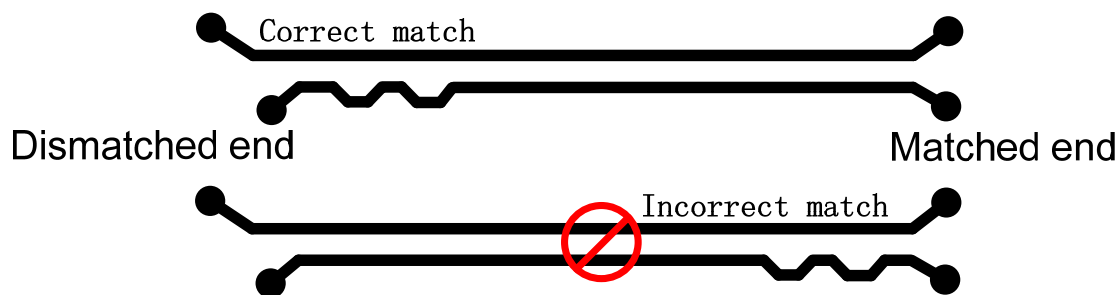

Figure 3-13 Length Match Design of PCIe Difference Pair
- The difference in length of two data lines in difference pair should be within 5mil, and the length match is required for all parts. When the length match is conducted for the differential lines, the designed position of correct match should be close to that of incorrect match, as shown in Figure 3-13. However, there is no specific requirements for the length match of transmit pair and receiving pair, that is, the length match is only required in the internal differential lines rather than between different difference pairs. The length match should be close to the signal pin and pass the small-angle bending design.